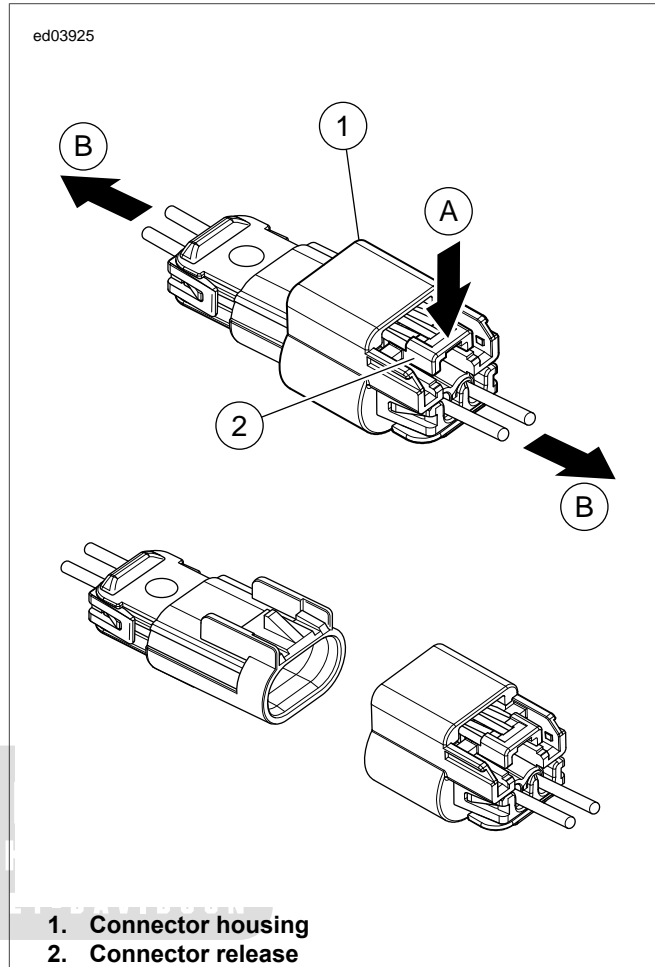

Figure B-5. Disconnect
See Figure B-5. Press connector release (A), separate the two halves (B).